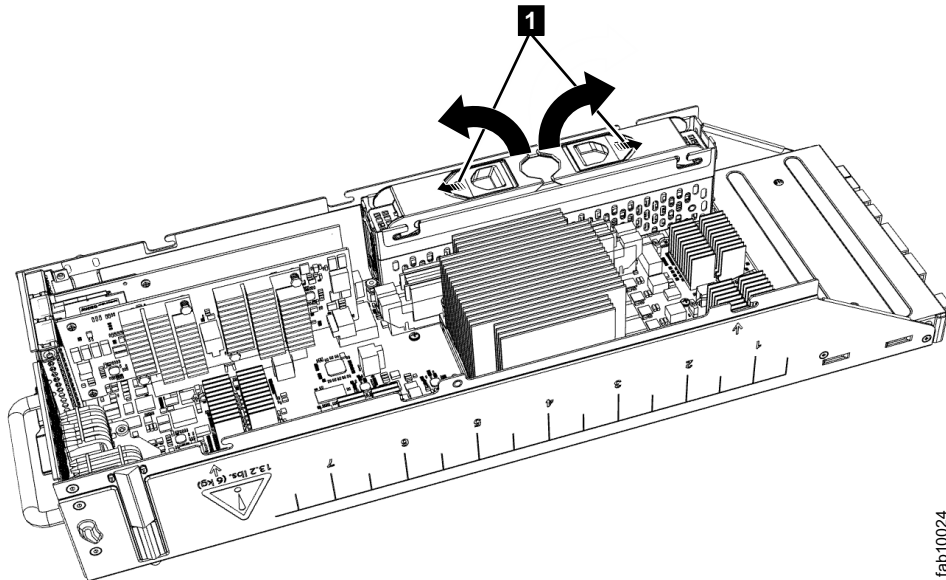

Figure 58. Opening latching arms to disconnect a Storwize V7000 Gen2 node canister battery
4. Spread the two blue battery latches outward as shown in Figure 58 on page 199. Raise open both latching arms of the battery simultaneously to disconnect the battery.